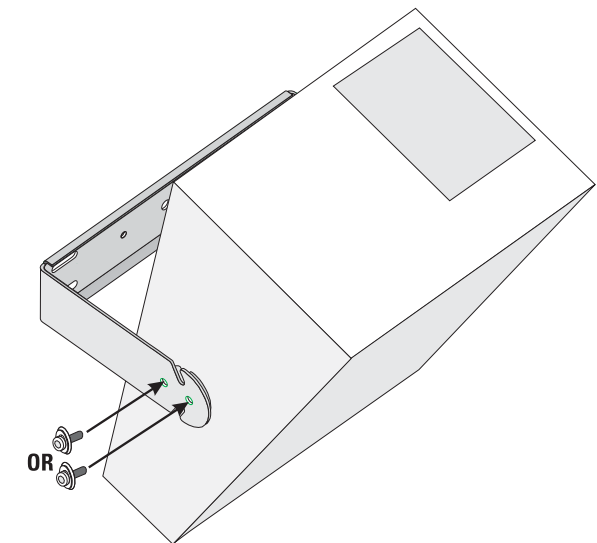

Figure 4- Loudspeaker installation using captive holes
Step 5b. If using the captive holes, have an assistant lift the loudspeaker into place and install the screws through the appropriate captive holes (Figure 4) and hand-tighten. Tilt the loudspeaker to the desired angle and tighten the screws securely.